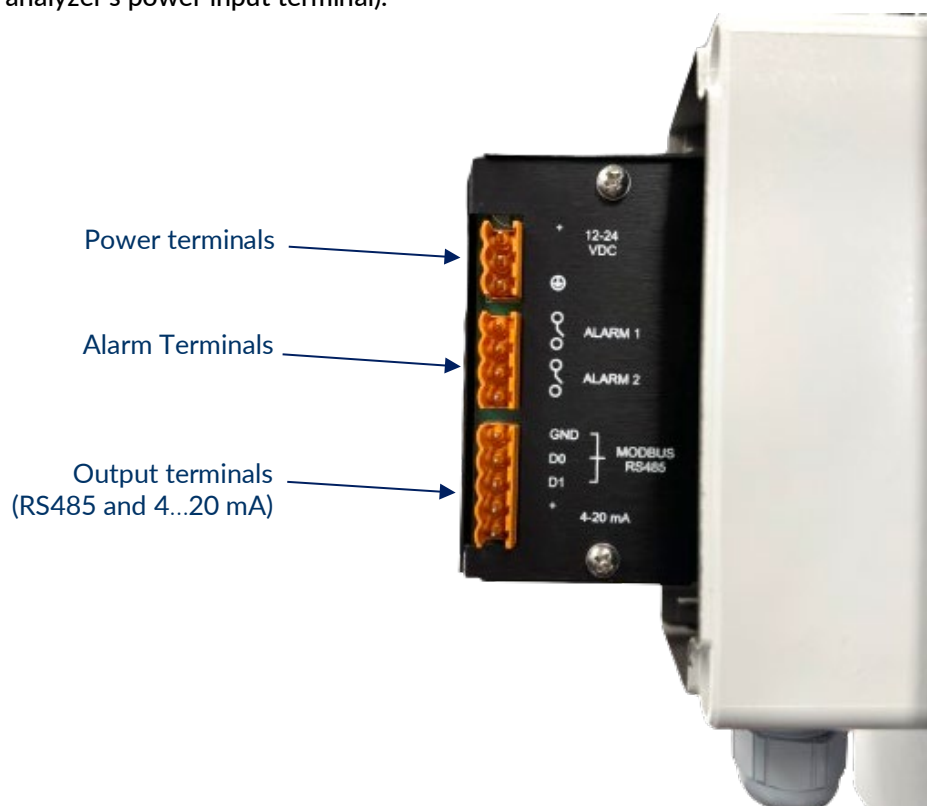

Figure 3. Wiring and connections
1. Apply power to your analyzer (refer to Figure 3 on page 9 for guidance).